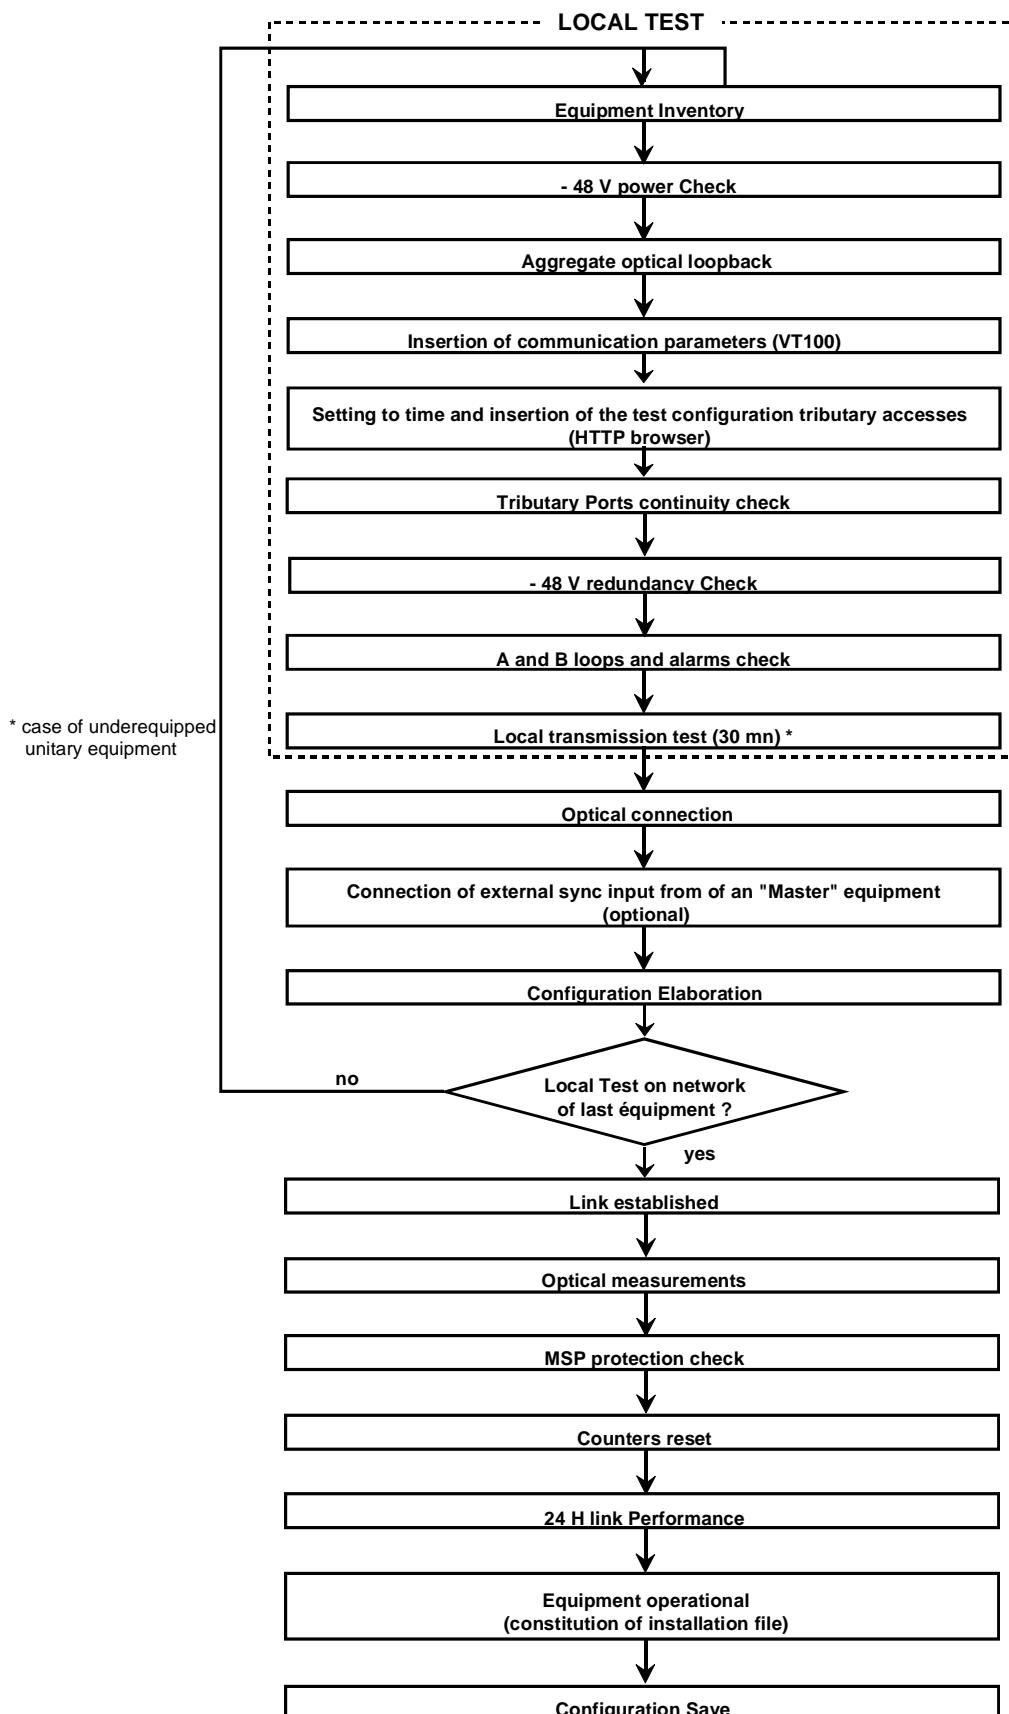

Figure 1-10- Commissioning procedure for ADR155C network
- ☞ Conduct the tests on STM-1 links, complying with the process described in Figure 1-10.